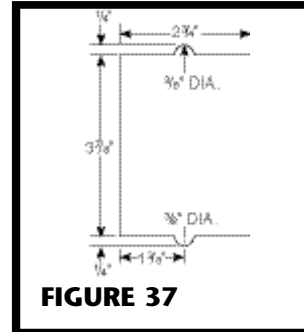

FIGURE 37
1. Make cutout according to dimensions in Figure 37.